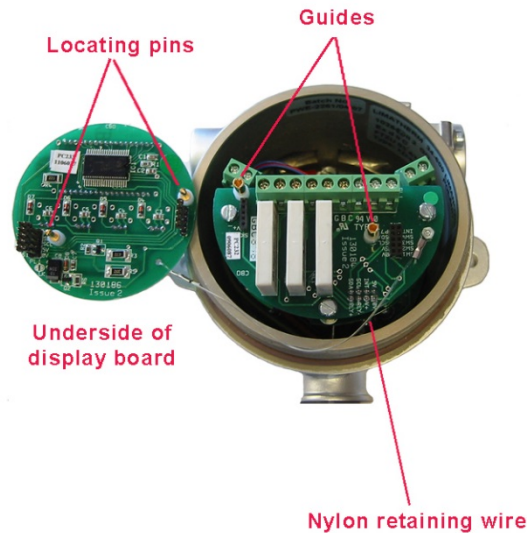

Figure 8: Replacing the Display Board
- Replace the top display board using the locating pins on the underside of the board to ensure that it makes connection with the remainder of the electronics - see Figure 8.